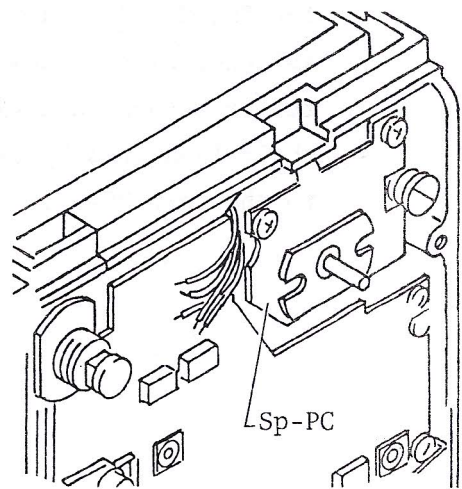

Fig. 41
2. Install the FPC board into the body and get ten leadwires from ASA and LEDs unit out of the FPC as shown in Fig. 41.
4. Wrap the FPC belt onto the bottom of the battery chamber and apply the GS-snap ring to the (A) pole.
5. Install the bayonet FPCs by stabbing (B) pole into the holes of the FPCs and then apply the GS-snap ring.